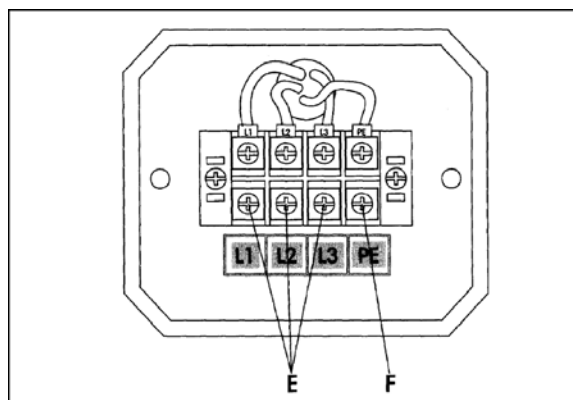

Figure 16
4. Connect the three power lines to terminals L1, L2 and L3, as shown (E, Figure 16). Also connect the green ground wire to terminal (F, Figure 16).